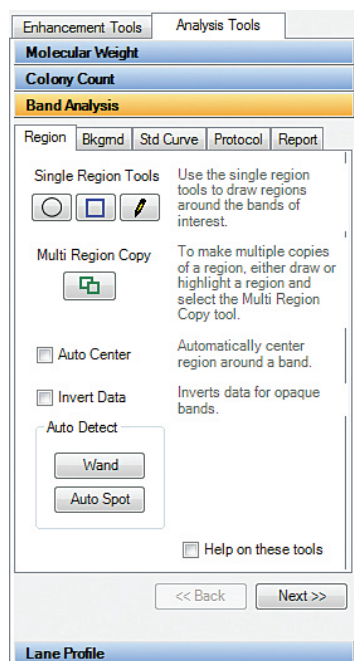

Figure 1. When an image is opened in AlphaView®, the Band Analysis Module will be active.
2. Select Analysis Tools and then Band Analysis. The Band Analysis module provides the image analysis tools needed to quickly extract quantitative data from images. The Band Analysis module is organized into 5 tabs: Region, Bkgnd (Background), Std (Standard) Curve, Protocol and Report (Figure 1).